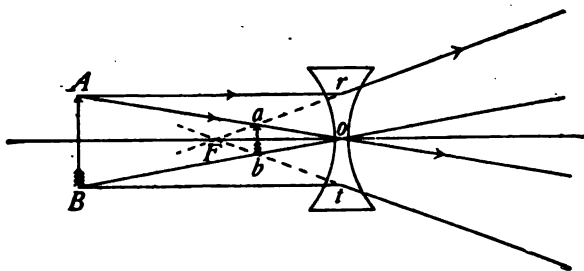

FIG. 385.—Construction of a virtual image by a concave lens.
*smaller image* of the object is formed. This virtual image may be seen by looking *through* the lens toward the object. (See Fig. 385.)